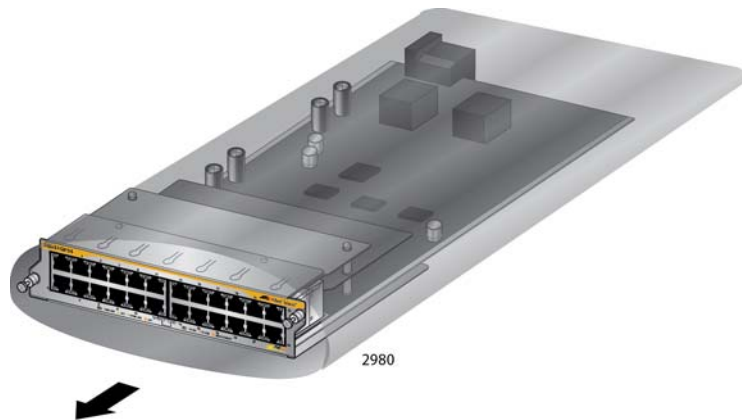

Figure 85. Removing an Ethernet Line Card from the Anti-static Bag
4. Carefully remove the Ethernet line card from the anti-static bag. Refer to Figure 85.